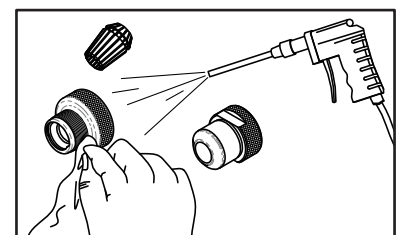
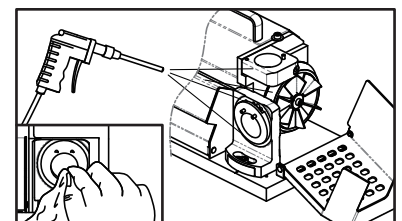

Fig. 9-4
Fig. 9-5
① Unplug the power cord and make sure the power is off.
② Disassemble the chuck set after use.
③ Use the air press gun to clean the scraps and dust out of all grinding shelves and all the accessories. (Fig. 9-4, Fig. 9-5)
(Fig. 9-4, Fig. 9-5)